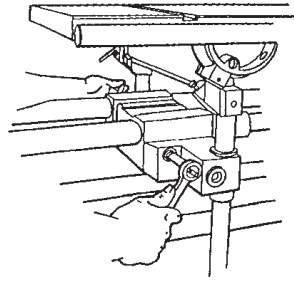

Figure C-8
1. If the carriage lock handle (187) does not lock into the horizontal position or the carriage moves out of position, the lock needs adjusting. To adjust the lock, use a 1/2" socket with an extension and ratchet handle to tighten or loosen the nut located at the back of the carriage assembly, as shown in Figure C-8.